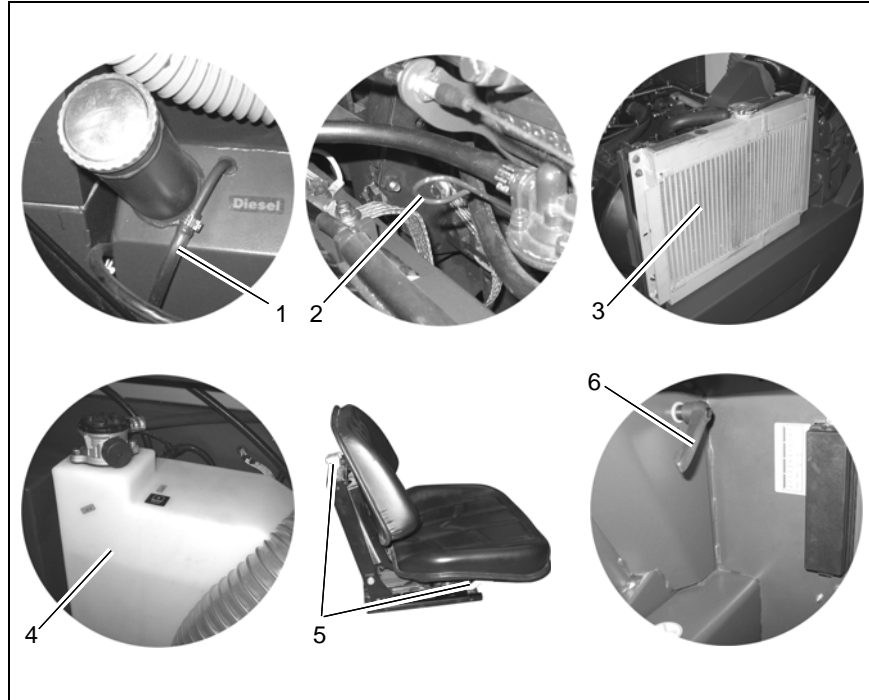

Fig.3
2. Check the fuel supply in the transparent tubing (Fig. 3/1), refill if necessary.
3. Check the engine oil level with the dipstick (Fig. 3/2), refill if necessary.
4. Check the level of coolant in the radiator (Fig. 3/3), refill if necessary.
5. Check the hydraulic oil level in the hydraulic tank (Fig. 3/4), refill if necessary.
6. Check the adjustment of the driver's seat (Fig. 3/5).
7. Check the steering wheel adjustment, readjust with the lever (Fig. 3/6), if necessary.